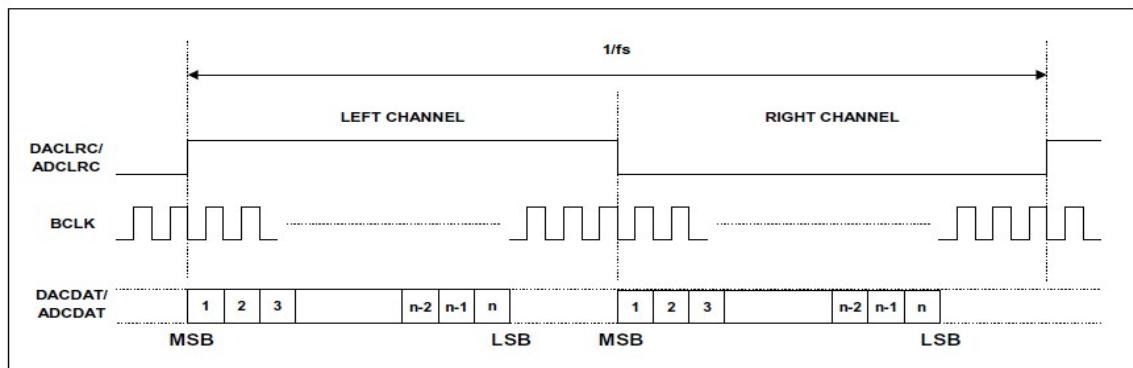

Figure 26 Left Justified Mode
- Notice that we now have a better view of the **ADCLRCK** and **DACLRCK** signals. To further understand what these signals mean, go to **Page 33** of the **Wolfson_audio** manual and look at **Figure 26**. It will look similar to **Figure 106**.